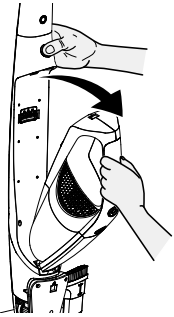

Fig.16
- Remove the handheld vacuum cleaner from the main body by pressing the release button and detaching the handheld vacuum cleaner (Fig.16).